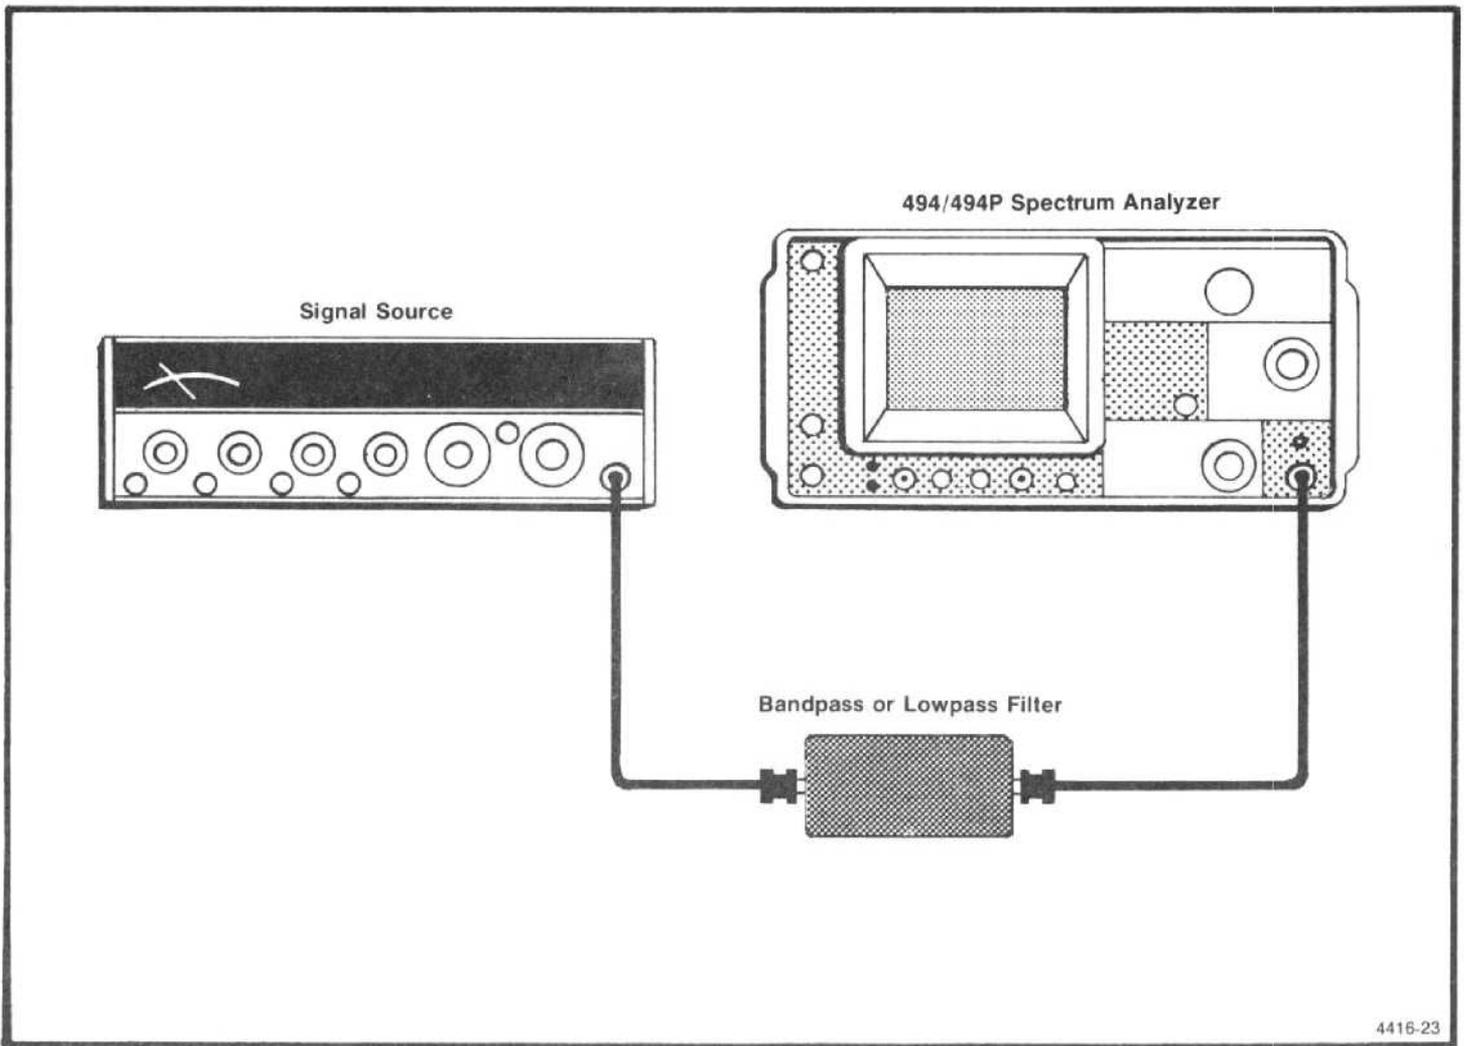

Figure 4-17. Equipment setup for checking harmonic distortion.
a. Equipment set up is shown in Figure 4-17. Set the FREQ SPAN/DIV to 5 MHz, REF LEVEL to –30 dBm, and RF ATTEN to 0 dB. Activate AUTO RESOLN, 10 dB/DIV, WIDE Video Filter, MIN DISTORTION, and VIEW A, VIEW B.